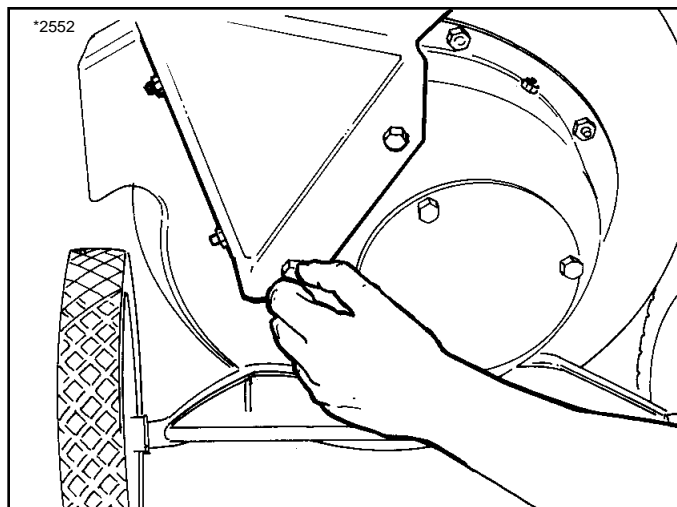

Figure 30. Removing Shredder Hopper
2. See Figure 30. Detach the shredder hopper from the rotor housing to gain access to the chipper knife socket head cap screws. Leave the liner and handle in place on the hopper.